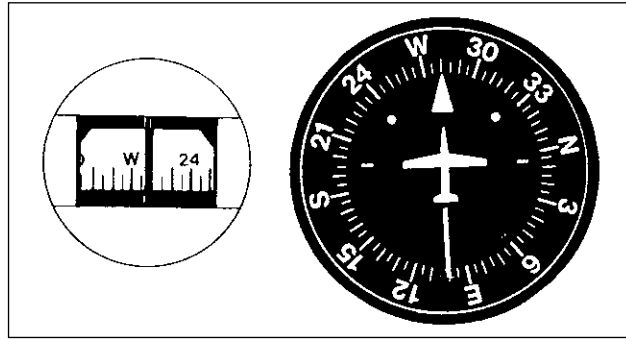

Figure 7-2. Use care in setting the heading indicator to the magnetic compass.
- e. The *heading indicator* is set with the *magnetic compass*. (Check that the compass is reading right for your approximate heading.) Some instructors recommend setting the heading indicator after the airplane is lined up with the runway on known runway headings; this can give a double check of the magnetic compass. Take a good look at Figure 7-2. The heading indicator has been set incorrectly because the pilot automatically set its lubber, or reference, line to relatively match that of the magnetic compass. The pilot thinks that the heading indicator was set to about 260° when actually it was about 280°. Say the compass reading to yourself and set *that* number on the heading indicator.